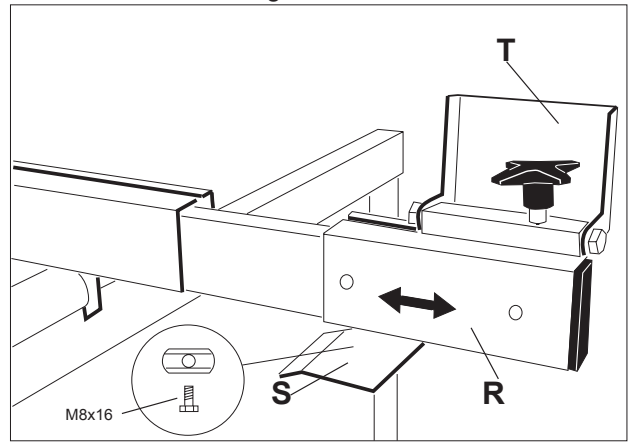

Fig. 9
- Attach the saw to the base using the two mounting hooks (Fig.9).
- Remove the end stop from the rip fence and push the telescopic extension **R** into the fence. Put the end stop in the telescopic extension (Fig. 9).
- Attach the bracket **S** to the telescopic extension (Fig. 9).
The turntable may be rotated horizontally in either direction and set at any cutoff angle. Loosen the turntable by pushing locking handle to the left (Fig. 9). Turn the turntable to the desired cutoff angle by means of the elevation arm (scale on table top indicates cutoff angle). Lock the turntable by pushing the locking handle to the right. Frequently used angles (90°, 45°, 30°, 22,5°, 15° and 0°) are preset.
- Rotate turntable to the **90°** mark, setting it parallel with the long fence (Fig. 9,11 and 12), and lock as described in section 4.4.